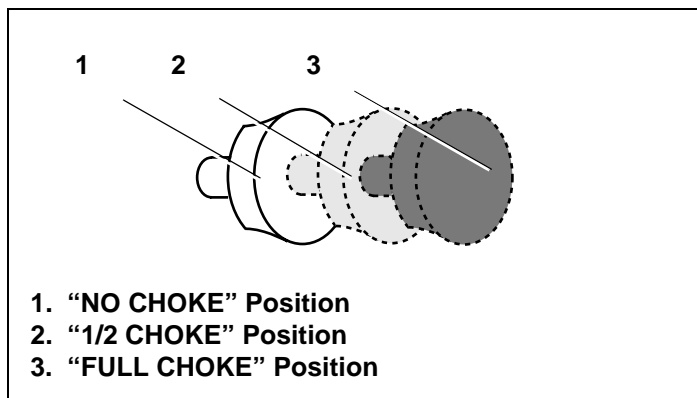

Figure 31. Remote Choke Control Positions
*Some engines are equipped with a remote choke control. See Figure 31.*